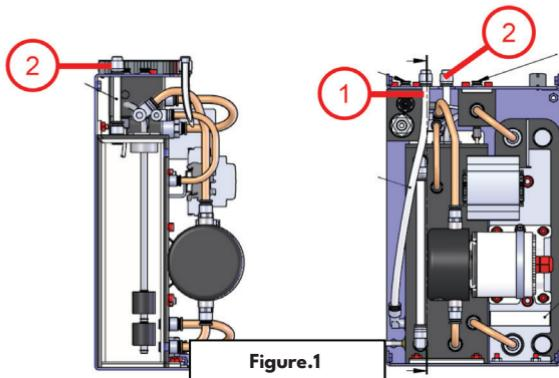

Figure.1
- Tank is prefilled to operate one cable with a maximal total length of 8m. Coolant level before connecting the cable is visible in the venting tube (Figure.1, no.2).
- Open cap no.1 and no.2 (Figure.1, no.1 and no.2)
- Use a funnel to avoid spillage => connect the funnel to tube Figure.1, no.1
- Tube no.1 (Figure.1, no.1) => fill in coolant
- Tube no.2 (Figure.1, no.2) => venting hole
- Close cap no.1 and no.2 (Figure.1, no.2)